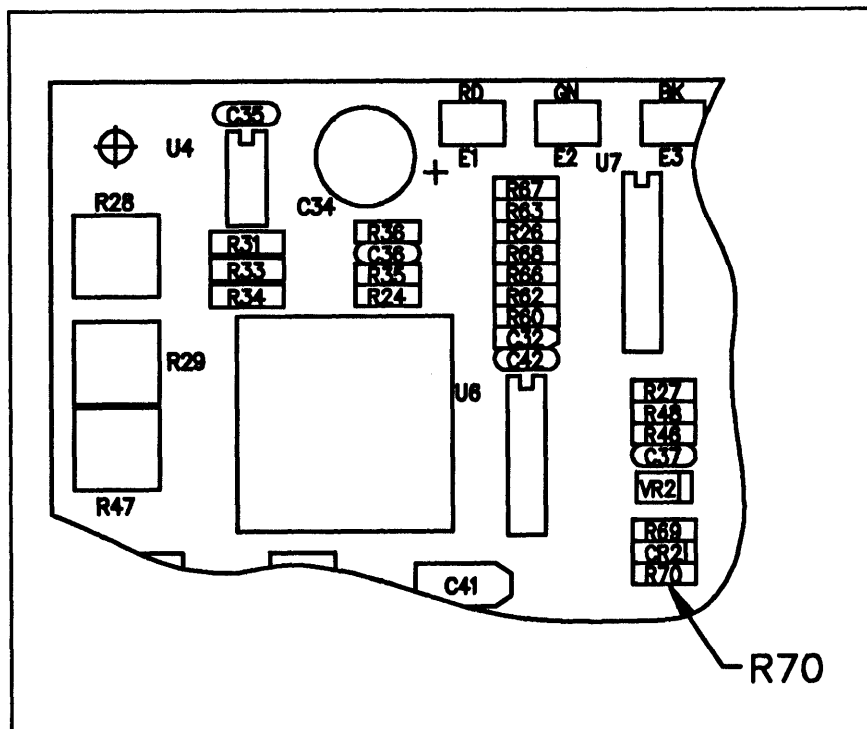

Figure 1. PC Board Detail
4. The resistor to be replaced is R70. Figure 1 depicts the upper left hand side of the PC Board. Note the square opening in the PC Board. These landmarks should help you locate R70.